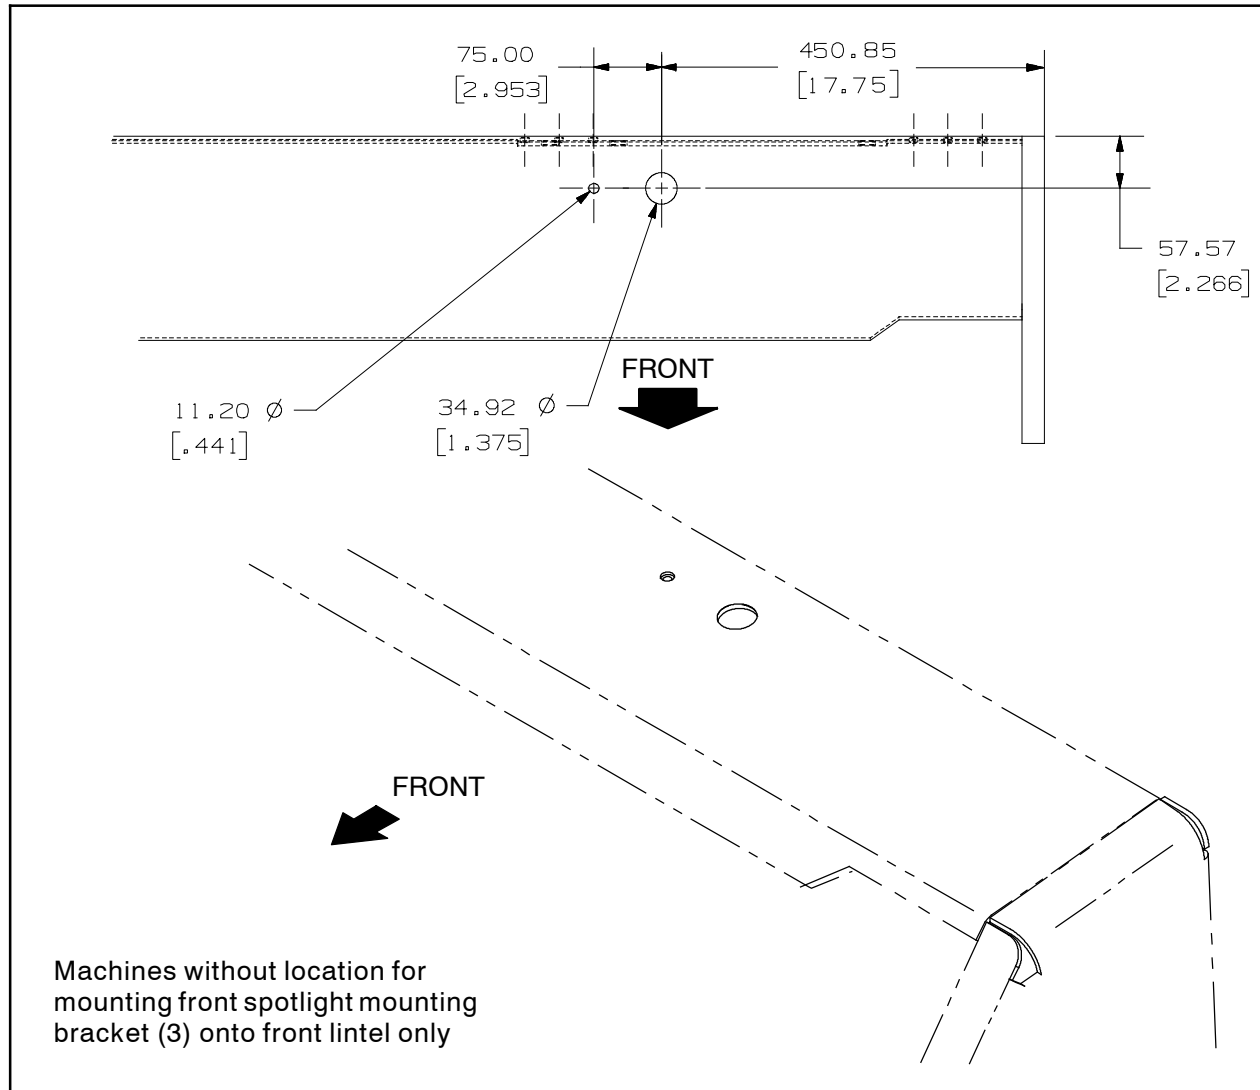

FIG. 1
1. If machine has plug fittings in the front lintel for installing the blue spotlight, remove and discard both plugs. (Fig. 1)
2. **Machines without location for routing blue spotlight harness (13) through front lintel only:** Measure and mark the location for the 1.375 in. (34.92 mm) hole to be drilled into the front lintel. (Fig. 1)
3. **Machines without location for mounting front spotlight mounting bracket (3) on front lintel only:** Measure and mark the location for the 0.441 in. (11.20 mm) hole to be drilled into the front lintel. (Fig. 1)
4. **Machines without location for routing blue spotlight harness (13) through front lintel only:** Drill a 1.375 in. (34.92 mm) hole into the front lintel. **Do Not** drill into parts/components located behind the front lintel. (Fig. 1)
5. **Machines without location for mounting front spotlight mounting bracket (3) to front lintel only:** Drill a 0.441 in. (10.20 mm) hole into the front lintel. **Do Not** drill into parts/components located behind the front lintel. (Fig. 1)